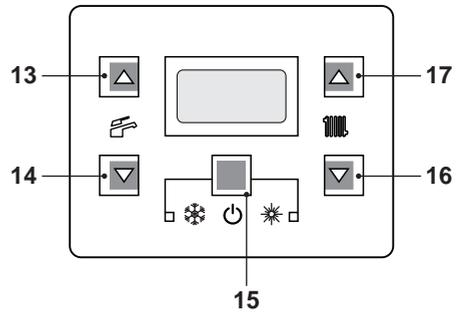
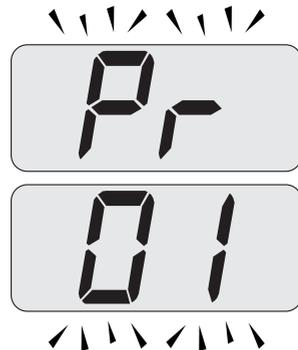

Fig. 7.46
Fig. 7.47
- Enter the "programming mode" by pressing keys 15 - 16 - 17 (Fig. 7.46) for 10 seconds at the same time until the letters **Pr** that alternate with code **01** are displayed on the LCD display, indicating that "parameter 01"(Fig. 7.47) has been activated.
- Press keys 15 and 17 (Fig. 7.46) at the same time until the value of parameter 01 (01=Activ A 25C or 02=Activ A 30C or 03=Activ A 35C) is displayed on the LCD display (Fig. 7.48).
- Press keys 15 and 16 (Fig. 7.46) at the same time to exit without changing the value (return to the parameters list Fig. 7.47)
- Press keys 15 - 16 - 17 (Fig. 7.46) at the same time for 10 seconds to exit the "programming mode".